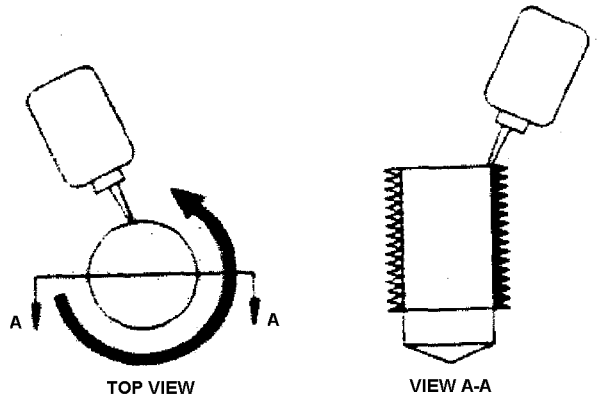

FIGURE 5-24. APPLYING THREAD SEALANT
- Align bevel gear (3, Figure 5-22) with the dowel pins on differential gear case (2) and install. Apply Three Bond #1374 thread tightener to the capscrew holes in the ring gear as shown in Figure 5-24. Applying the thread tightener to the holes prevents splatter onto critical areas.